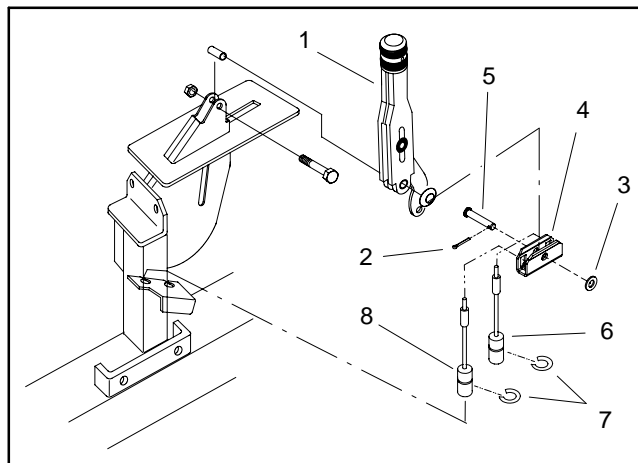

Figure 11
3. Remove cotter pin, flat washer and clevis pin that secure brake equalizer to parking brake lever (Fig. 11).
4. Remove retaining rings that secure brake cables to frame. Remove cable ends from equalizer plate (Fig. 11).